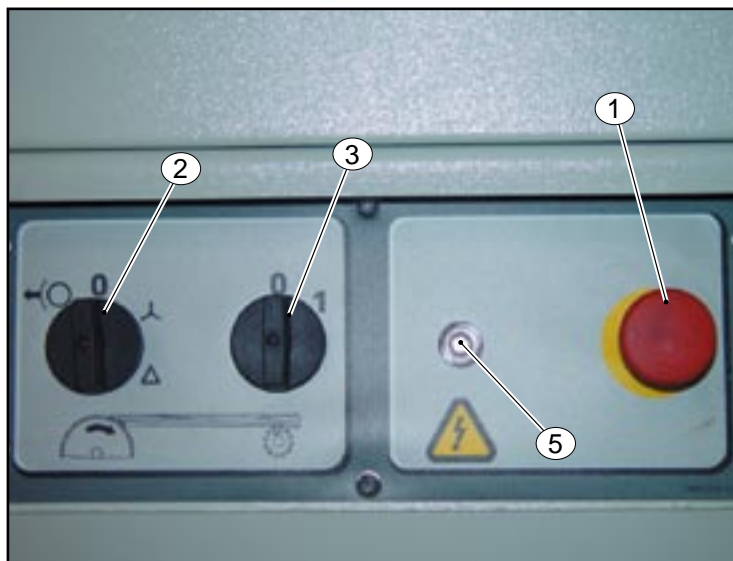

Fig. 3.2.1A
3.2.1 DESCRIZIONE QUADRO ELETTRICO FIG. 3.2.1A, 3.2.1B